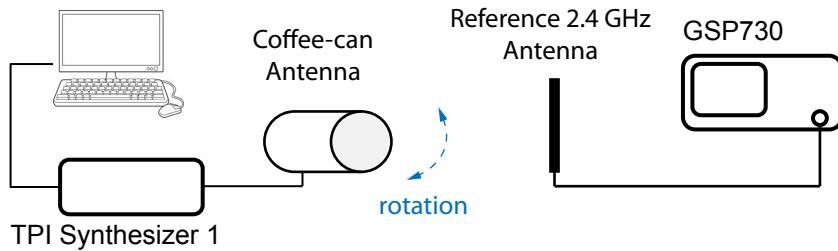

Figure 6: Measuring antenna pattern using a reference antenna.
4. **Antenna Gain** You should be able to measure a signal at 2.4 GHz on your spectrum analyzer. Record the power of this signal, which will be your P_r and calculate the gain of your antennas using (1). Make sure that you carefully take into account the loss of the connectors, adapters, and cables.
6. **(Optional) Antenna Pattern** After you have finished the above steps, the TA can show you to the anechoic chamber in the Kemper 3182 lab, where you can have the pattern of your antenna measured. Plot the pattern of your antenna in your lab report. Alternatively, you may also try to do a crude pattern measurement by yourself. Fig. 6 will give you some hint. Ask the TA for the reference 2.4 GHz antenna.